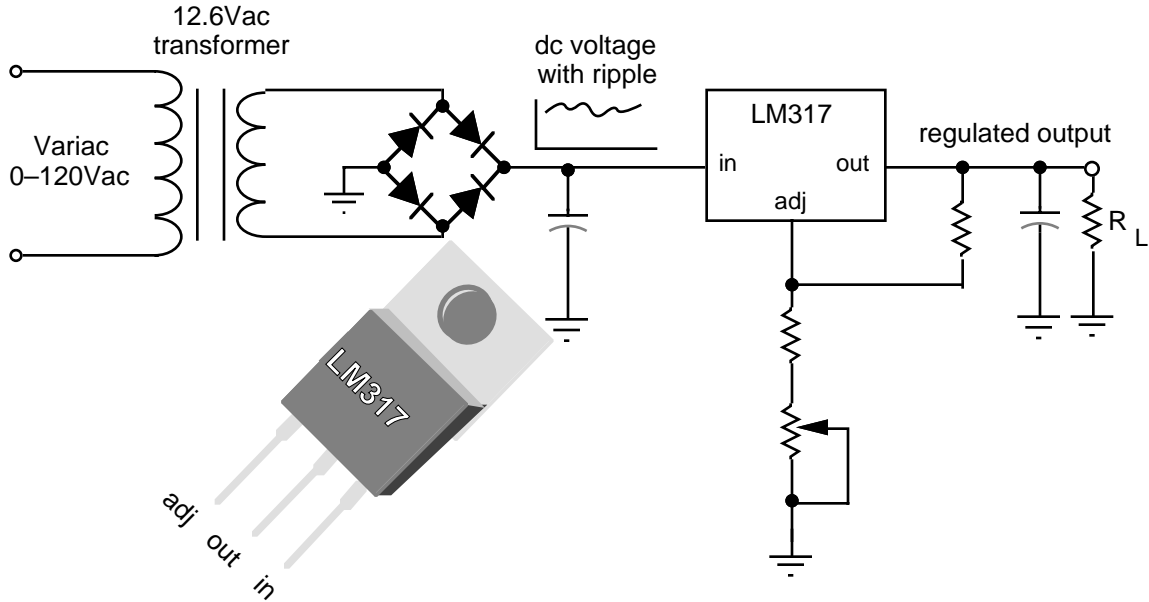

Fig. 11.2
a) Design a +5 V regulated power supply using the 317 and the diode bridge of Lab 4. The 317 maintains 1.25 V between the ADJ and OUT pins and the current in the ADJ lead is about 50 μ A. Provide a $\pm 20\%$ voltage adjustment range with a trim pot. Figure 11.2 shows the skeleton design. Allow about 20% ripple on the output of the filter capacitor with a 1 k load. Test the regulator as in part 1. Measure the %LR, %SR and dropout voltage. Try to measure the ripple rejection.